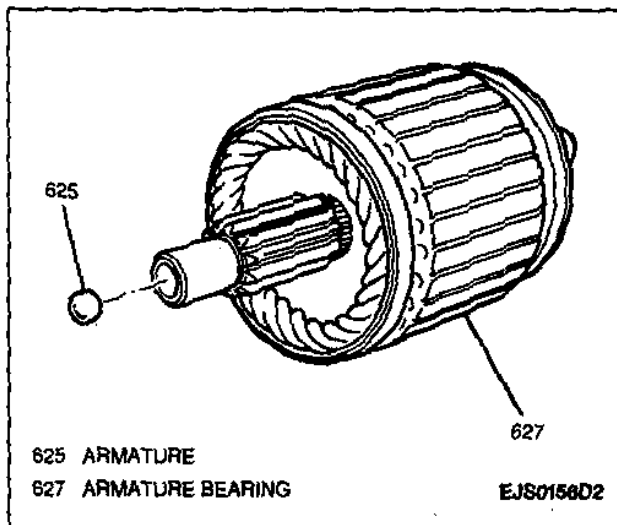

Figure 15—Armature Bearing
**NOTICE:** If the armature bearing comes out during the removal procedure, apply grease to it and reinsert (Figure 15).
**NOTICE:** If the armature bearing comes out during removal, apply grease to it and reinsert (Figure 15).